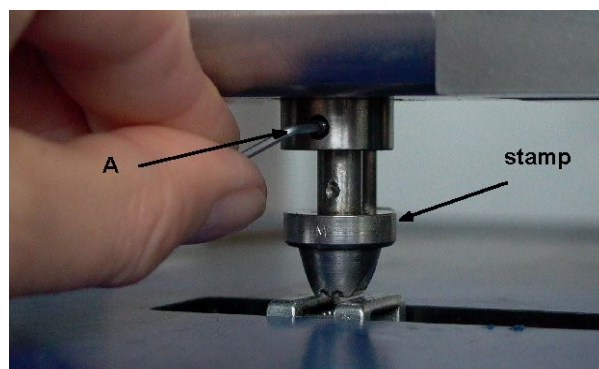

Fig. 2.13
- Turning Shaft Nut 'A' to minus or plus direction, until upper part of the embossing head is about 2 mm higher as the embossing table. (Detail see Fig. 2.13)
Loosen the marked screw 'A' (Fig. 2.13) and remove the stamp. Put a drop of oil to the shaft of the stamp and insert the new stamp (Text or graphic) Push it as much as possible to the top. Fix the screw 'A' and assemble both protections. Adjust dot height as described in the chapter 2.3.